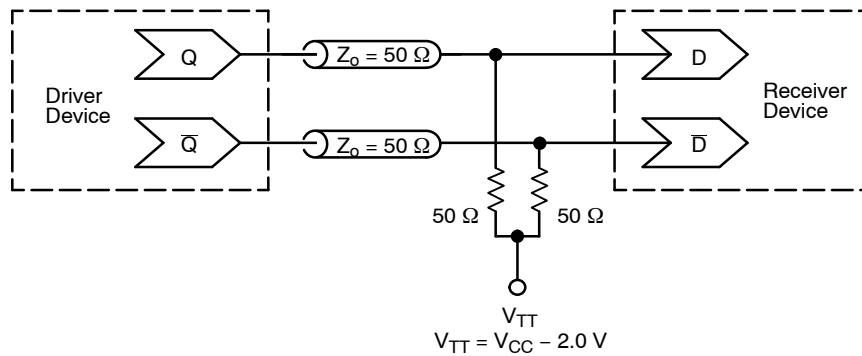

Figure 10. Typical Termination for Output Driver and Device Evaluation
- All loading with 50 Ω to $V_{CC} - 2.0\text{ V}$ (see Figure 10).
9. All loading with $50\ \Omega$ to $V_{CC} - 2.0\text{ V}$ (see Figure 10).
12. All loading with $50\ \Omega$ to $V_{CC} - 2.0\text{ V}$ (see Figure 10).
15. All loading with 50 Ω to $V_{CC} - 2.0\text{ V}$ (see Figure 10).
18. All loading with 50 Ω to $V_{CC} - 2.0\text{ V}$ (see Figure 10).
20. Measured using a 750 mV source, 50% duty cycle clock source. All loading with 50 Ω to $V_{CC} - 2.0\text{ V}$ (see Figure 10).